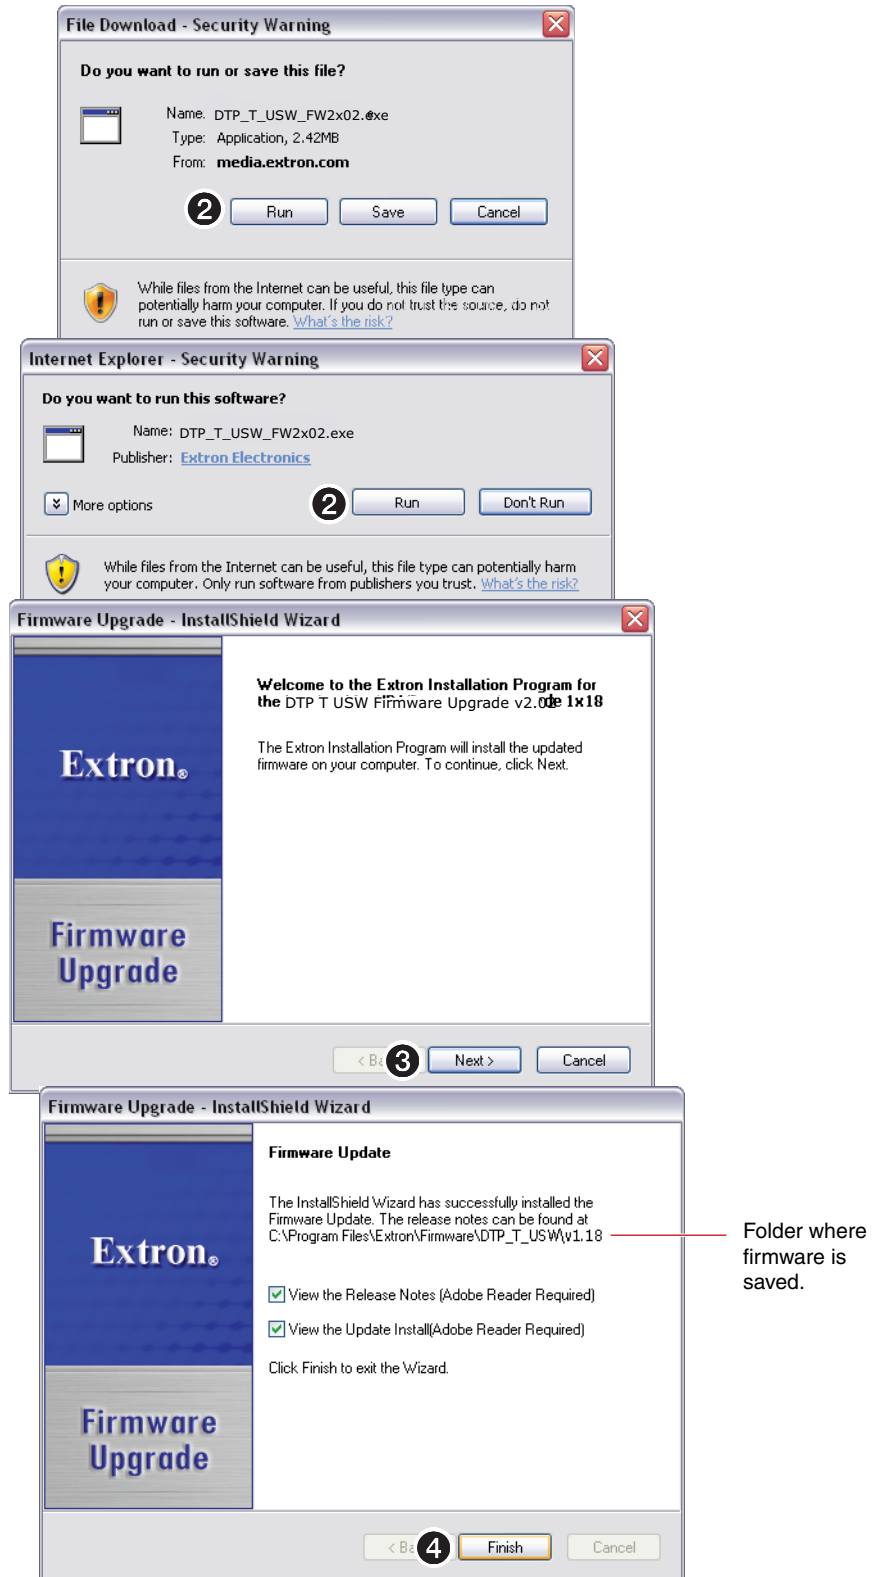

Figure 17. Extracting Firmware Upgrade Files
2. Click **Run** in the **File Download** and **Security Warning** dialog boxes (see figure 17, **2** on the next page). The PC downloads the firmware update from the Extron website and starts the Extron Installation Program to extract the firmware file.
3. Click **Next** (see figure 17, ③ on the previous page). The program extracts the firmware files and places them in a folder identified in the **InstallShield Wizard** window.
8. Click **Continue** (see figure 17, ❶). The Product Configuration Software disconnects itself from the unit and calls the Firmware Loader utility in the background. The **Update Firmware** dialog box appears.
9. Click **Browse** (❷). The **Open** dialog box opens.
10. Navigate to the folder where you saved the firmware upgrade file. Select the file (❸) and click **Open** (❹). The **Update Firmware** dialog box returns to the top.
11. Click **Update** to continue (❺).